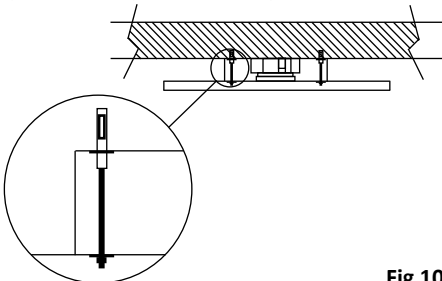

Fig 10
8. Only tighten the bolts so the hood is fixed securely to the bulkhead. If you tighten too much you will damage the frame (**Fig 10**).